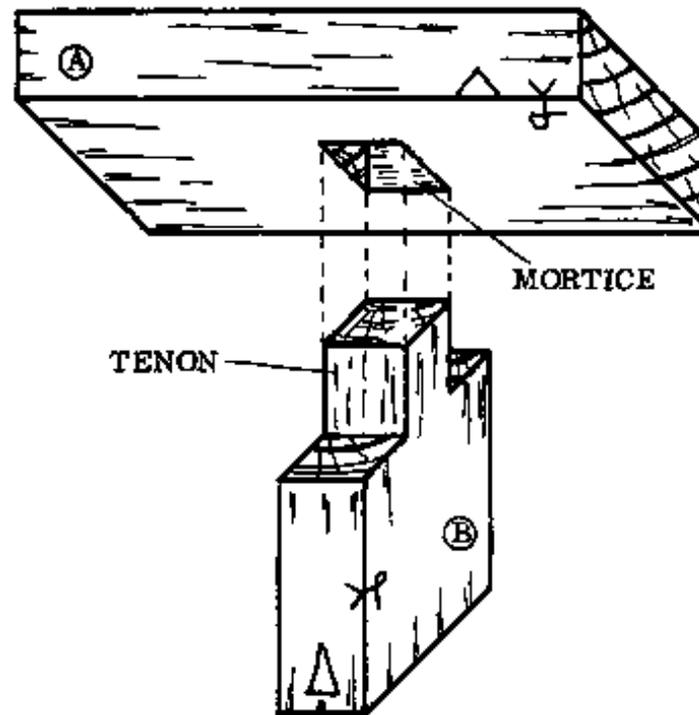

Fig. 1
This is one of the commonest and strongest joints. The two parts are (Fig. 1): the tenon (B) which is a projection on the end of one part and the mortise (A), the hole in the other part into which the tenon fits. The tenon is usually 1/3rd of the width of the board.